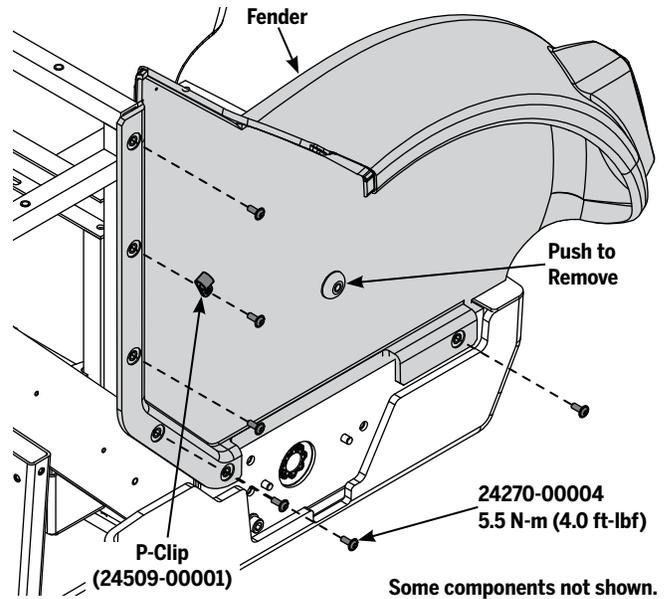

Figure 30: Outside Fasteners
3. Using a 4 mm hex wrench, remove the six outside fasteners and P-clip (**Figure 30**).
7. Install a P-clip around the Tail Light Harness and orient it as shown in **Figure 30**.
8. Using a 4 mm hex wrench, install the six outside fasteners and the P-clip (see **Figure 30**).